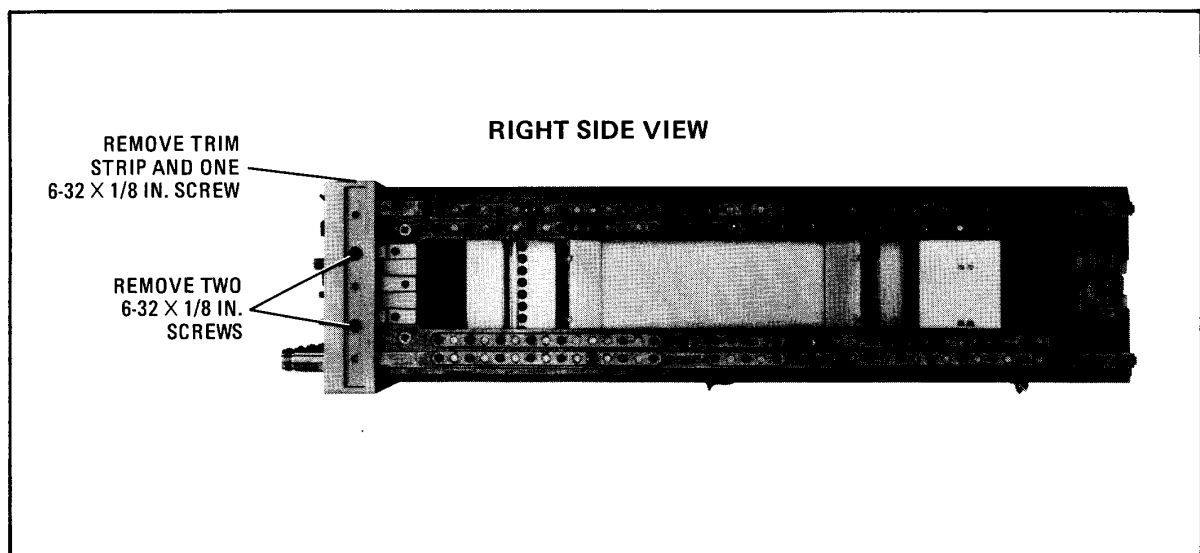

Figure 8-111. Right Side View Showing Front Panel Retaining Hardware
2. Remove top trim strip from front frame using a small, flat-blade screwdriver. (See Figure 8-111.)
4. Remove trim strip from right side of front frame or (if instrument has Option 907 installed) from right handle. (See Figure 8-111.)
6. Remove two 6-32 x 1/8 inch flat-head Pozi-Driv screws from right side of front frame. (See Figure 8-111.)
5. Install two 6-32 x 1/8 inch flat-head Pozi-Driv screws at the right side of front frame. (See Figure 8-111.)
8. Install one 6-32 x 1/8 inch flat-head Pozi-Driv screw into top trim strip channel adjacent to REFERENCE POSITION switches. (See Figure 8-111.)